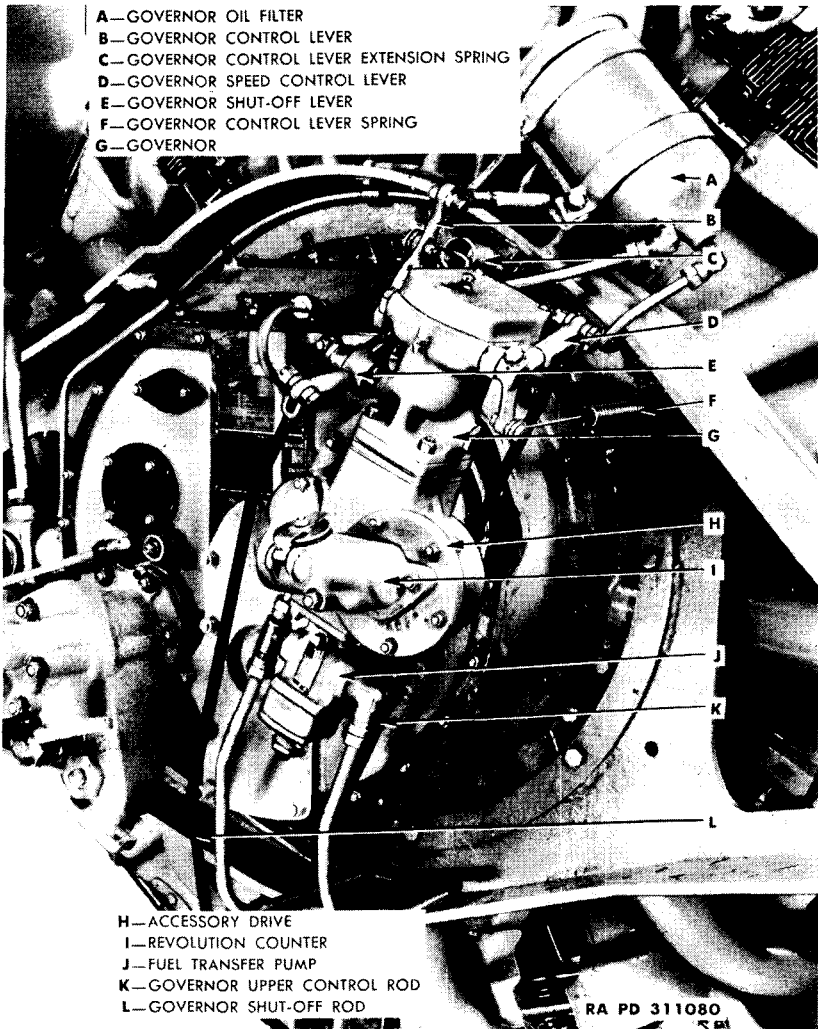
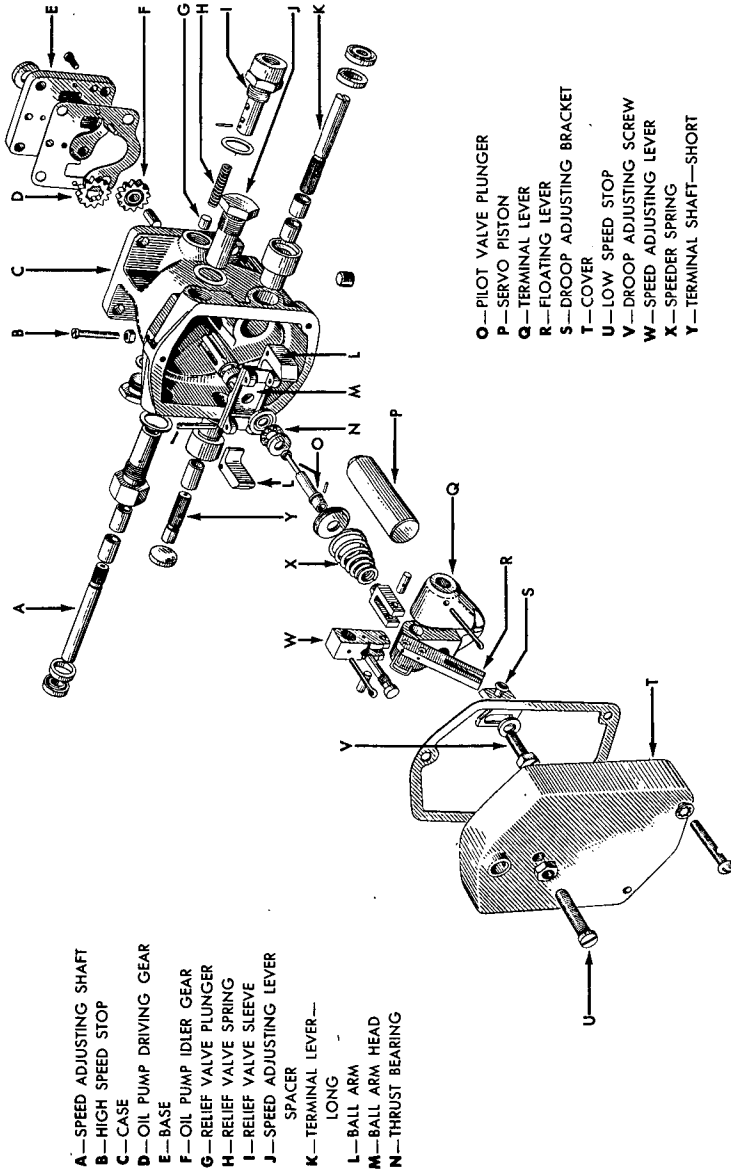

Figure 73 — Governor and Controls
Figure 74 — Governor Disassembled
a. **Remove Governor.** With control rods and levers removed, remove four nuts attaching governor to housing. Pull governor and gasket off studs (fig. 73).
a. **Remove Cover.** Remove three cover screws and lift cover and gasket off case (fig. 74). Remove the high speed and low speed stops and lock nuts.
a. Install Governor. Place gasket and governor on studs and attach with four nuts (fig. 73). Be certain governor name plate faces engine.
b. **Install Control Levers** (fig. 73). If original governor has been reinstalled, place speed control lever and shut-off lever in their original location and pin in place. If a replacement governor has been installed it will be necessary to relocate position of levers on their respective shafts. Position shut-off lever on terminal shaft (fig. 74) so that rod from lever to engine is in the full forward position when terminal shaft is rotated fully counterclockwise. Position speed control lever on speed adjusting shaft (fig. 74) so that governor does not restrict full travel of accelerator pedal and so that correct low and high idle speeds may be obtained.
c. **Set Low and High Idle Speeds** (fig. 73). These adjustments must be made with engine running. Loosen lock nut on set screw located on top of governor cover. With throttle in closed position, adjust screw to obtain a low idle speed of 650-750 revolutions per minute. Tighten lock nut and lock wire. Loosen lock nut on set screw on back side of governor housing. With throttle in fully advanced position, adjust screw to obtain a high idle speed of 2,050 to 2,200 revolutions per minute. Tighten lock nut and lock wire.